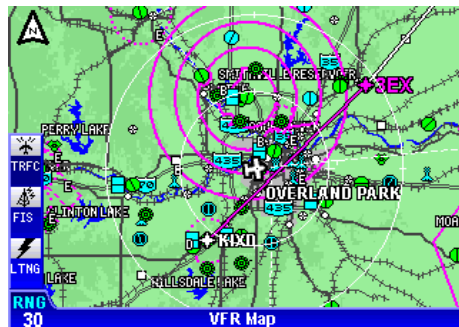

Figure 1-146
3. Press the **OK** Softkey. The Map will again be displayed with guidance to intercept and resume the active flight plan as shown in Figure 1-146.